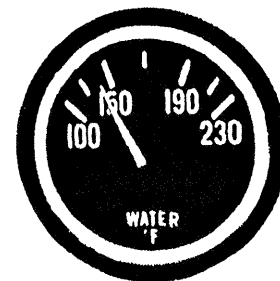

Fig. 3-7 Engine Coolant Temperature Gauge
**7. Engine Coolant Temperature Gauge See Fig. 3-7**